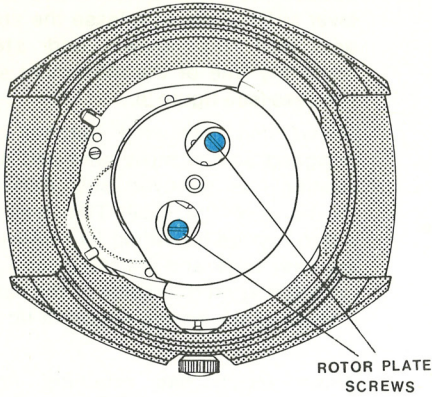
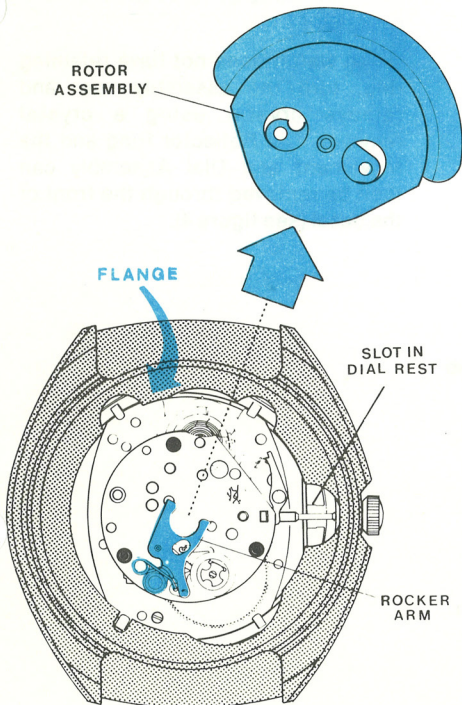

FIGURE 1
FIGURE 2
The Model 107 movement is disassembled as follows: Remove the caseback. Loosen and remove two rotor plate screws (see figure 1). Lift the Rotor Assembly slightly to free the dowels. Since the rocker arm fits between the Rotor Frame and the Rotor Assembly, position the rotor weight as shown in figure 2 and slide the assembly along the movement plate, (toward the balance wheel) until it is free of the rocker arm and then lift the assembly out of the case.
Some Timex self-wind watches are designed so the movement and dial assembly is removed only through the back of the case. This type of watch can be identified by removing the case back and checking for a retaining ring on the inside of the bezel instead of the flange shown in figure 1.
- E. Reassemble the Rotor Assembly by sliding it into the movement under the rocker arm as shown in figure 2. (Notch in the rotor frame points towards the balance assembly.) Secure the rotor to the movement with two screws as shown in figure 1. (It is sometimes easier to assemble the Rotor Assembly to the movement first when Movement and Dial Assembly is to be assembled through the back of the case and secured with a retaining ring.)